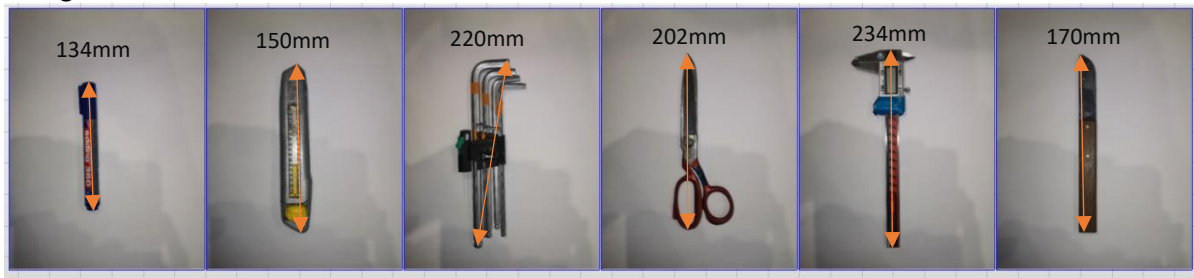

Figure 412
7. **SCALE:** Next, we need to scale each picture to the real size of the tool. Figure 412 shows the original lengths: